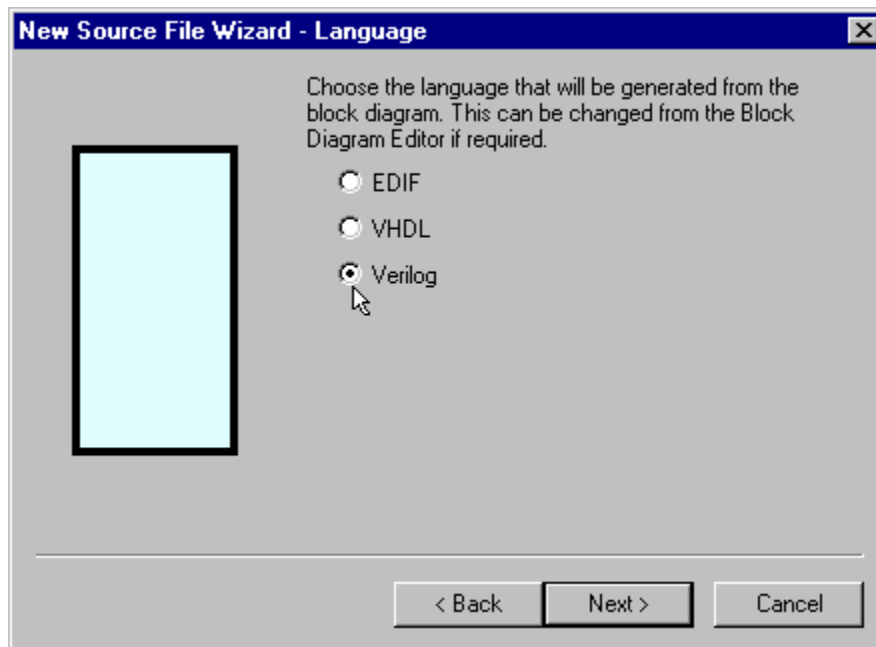

Figure 7
4. Select the “Verilog” option, and click the Next button (see Figure 7).